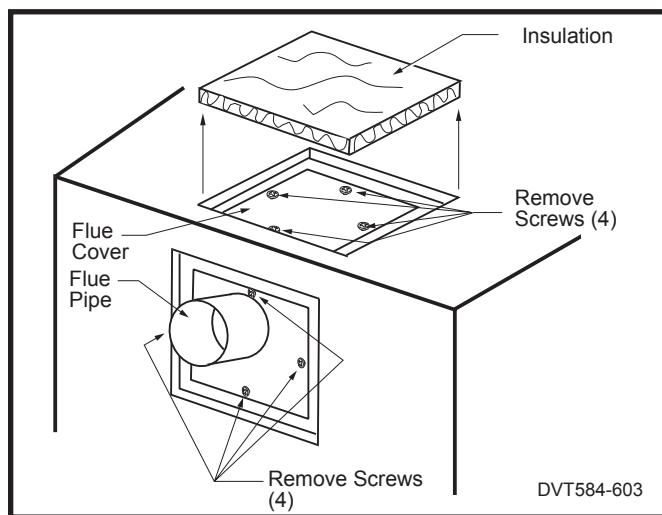

Fig. 11 Remove flue cover and flue pipe.
3. Remove insulation on top of collector box. (Fig. 11)
4. Remove the four (4) screws securing flue cover to top of unit and remove flue cover. (Fig. 11)
5. Remove the four (4) screws securing flue pipe to back of unit. Remove flue pipe. (Fig. 11)
5. Remove insulation on top of collector box. (Fig. 11)
6. Remove the four (4) screws securing flue cover to top of unit and remove flue cover. (Fig. 11)
7. Remove the four (4) screws securing flue pipe to back of unit. Remove flue pipe. (Fig. 11)